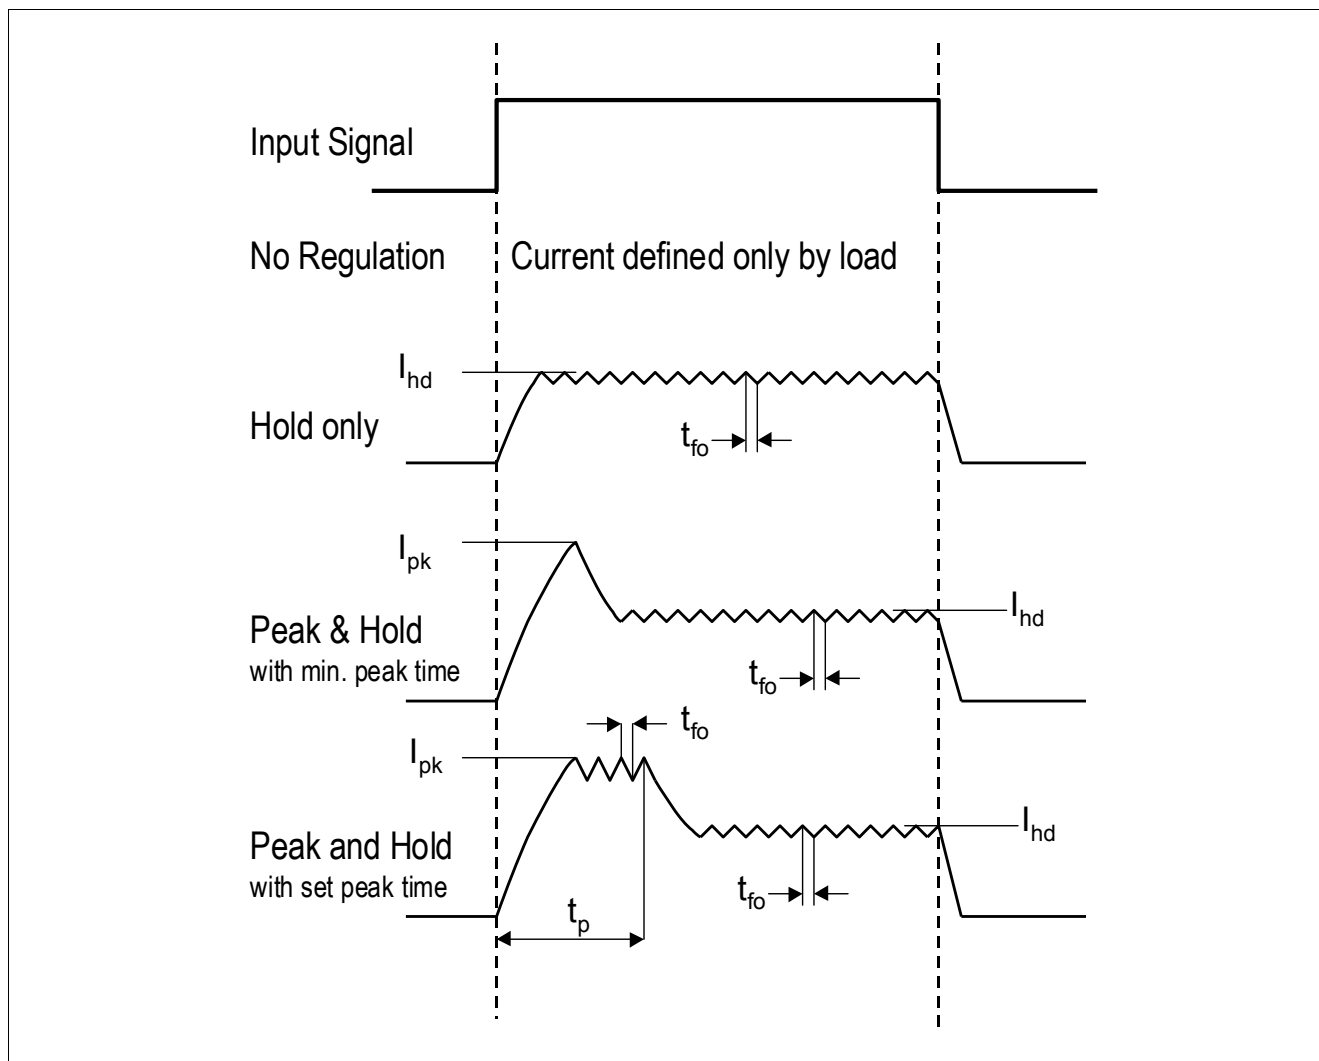

Figure 6 **Current Forms of the Different Current Control Modes of Channel 1-3**
- Peak Current, Peak Time, Hold Current and Off-Time can be selected by SPI to set average and ripple current for a given load (refer to Figure 6)